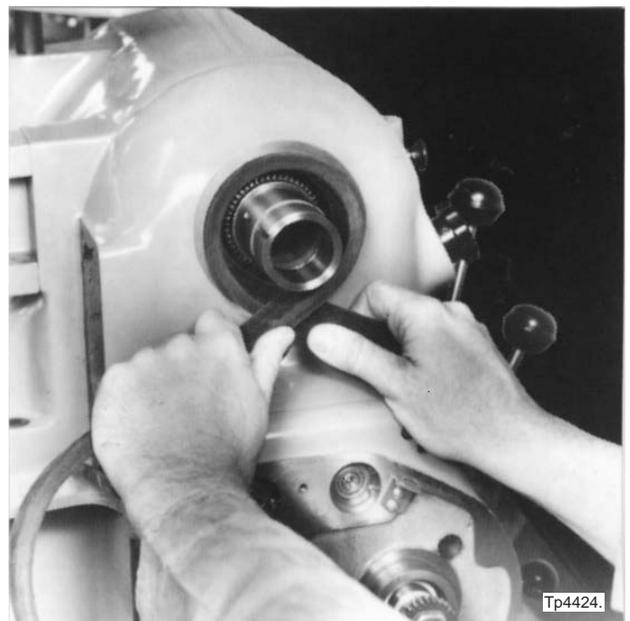

Figure 3.18 - Spindle Belt Replacement
36. Cross the new spindle belt, as shown in Figure 3.18, feed it into the headstock and down into the pedestal.